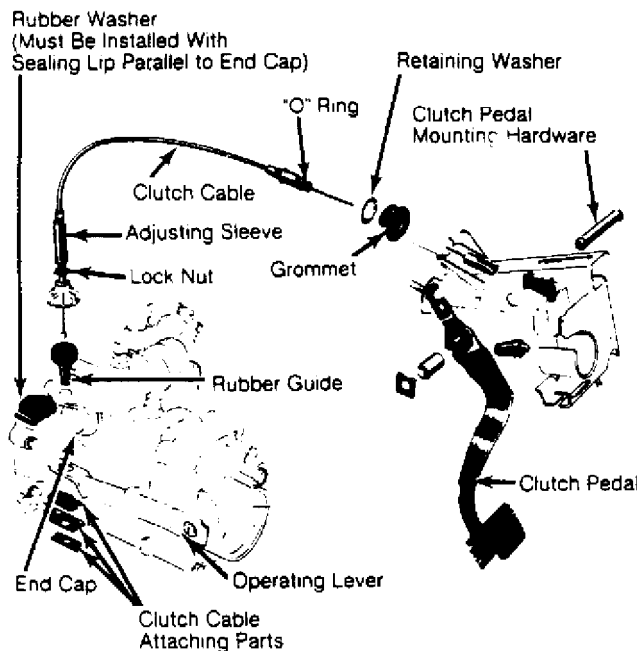

Fig. 2: Clutch Cable Routing & Adjusting Location
1) Disconnect battery ground. Attach engine support assembly. Remove left transaxle mount. Disconnect back-up light wires, speedometer drive cable (plug hole) and clutch cable. See Fig. 2.